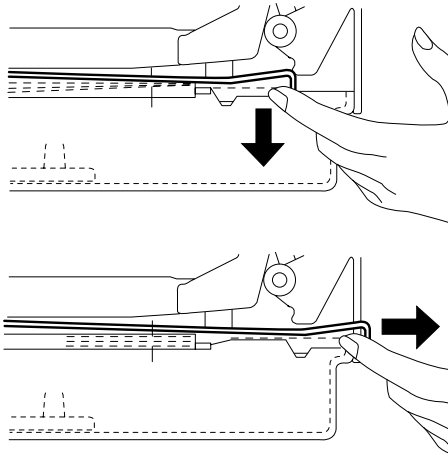

Fig. 9.2 *Remove Top Tray of Cassette Slot*
3. Remove the manual-feed platform by lifting it up and forward at the front until it drops out (fig. 9.2).